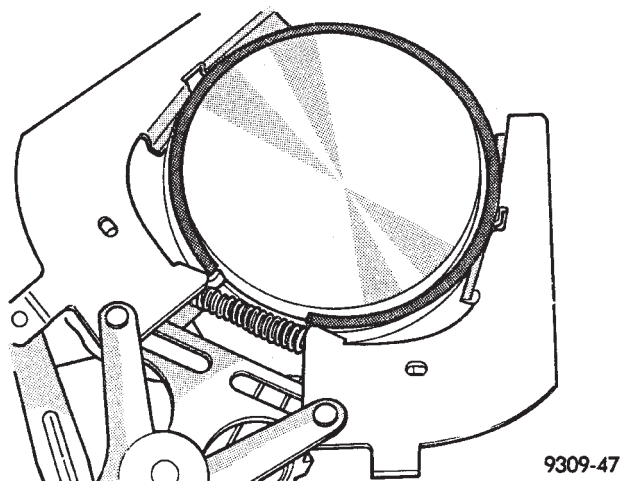

Fig. 11 Upper and Intermediate Rings—Installation
(8) Install upper side rail first and then the lower side rail.
(9) Install No. 2 piston ring and then No. 1 piston ring (Fig. 11).